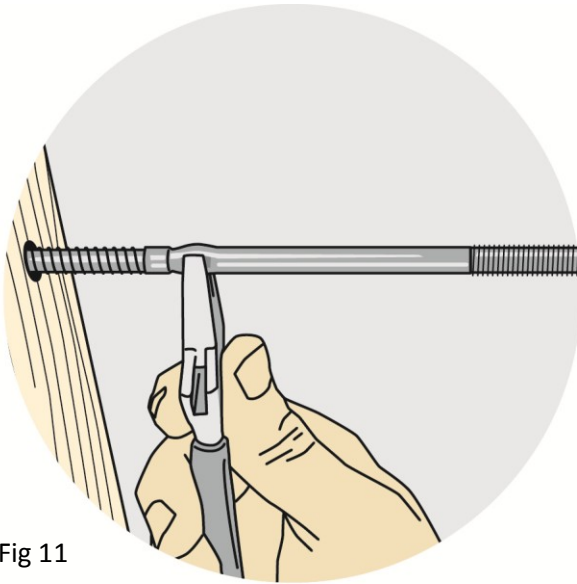
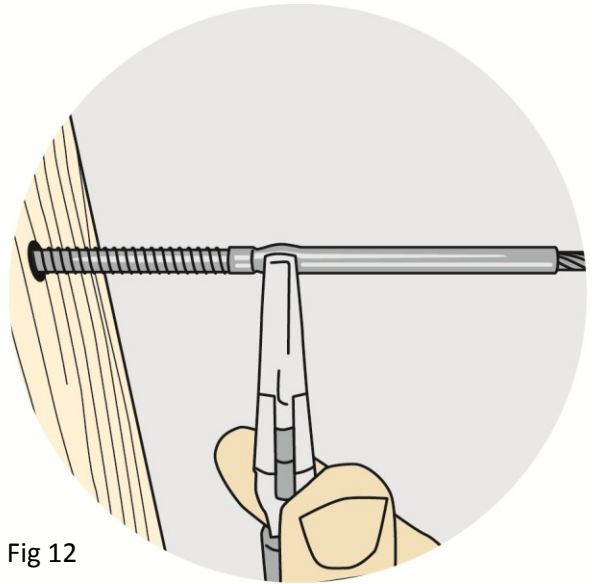

Fig 11
Fig 12
- a) Using a wrench, screw the FineLine® Lag Shaft (Fig. 11)/Swage Lag End (Fig. 12) into the pilot hole on the inside face of Post 1 (Fig. 11).